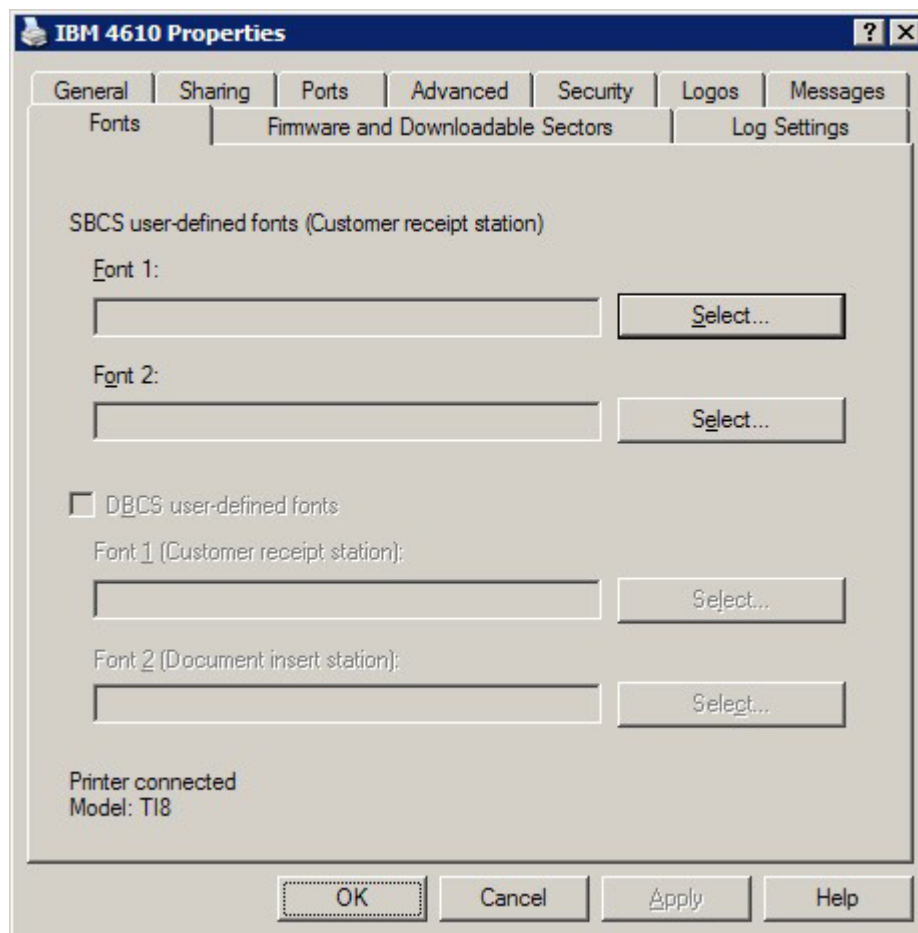

Figure 27. Fonts tab
3. Click the **Fonts** tab (see Figure 27).
3. Click the **Fonts** tab (see Figure 27 on page 39).